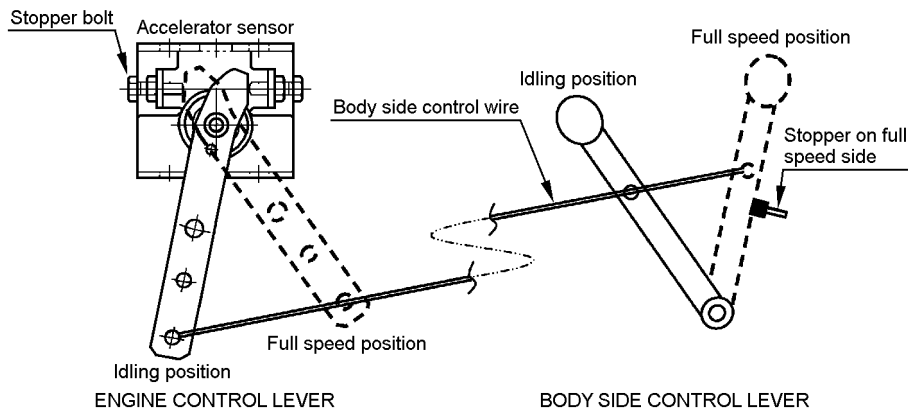

Fig. 3 Installation procedure
- To prevent deformation of the accelerator sensor, install a suitable stopper on the body side control lever. Install the stopper against the control lever at the full throttle position as shown in Fig. 3 on page C30.